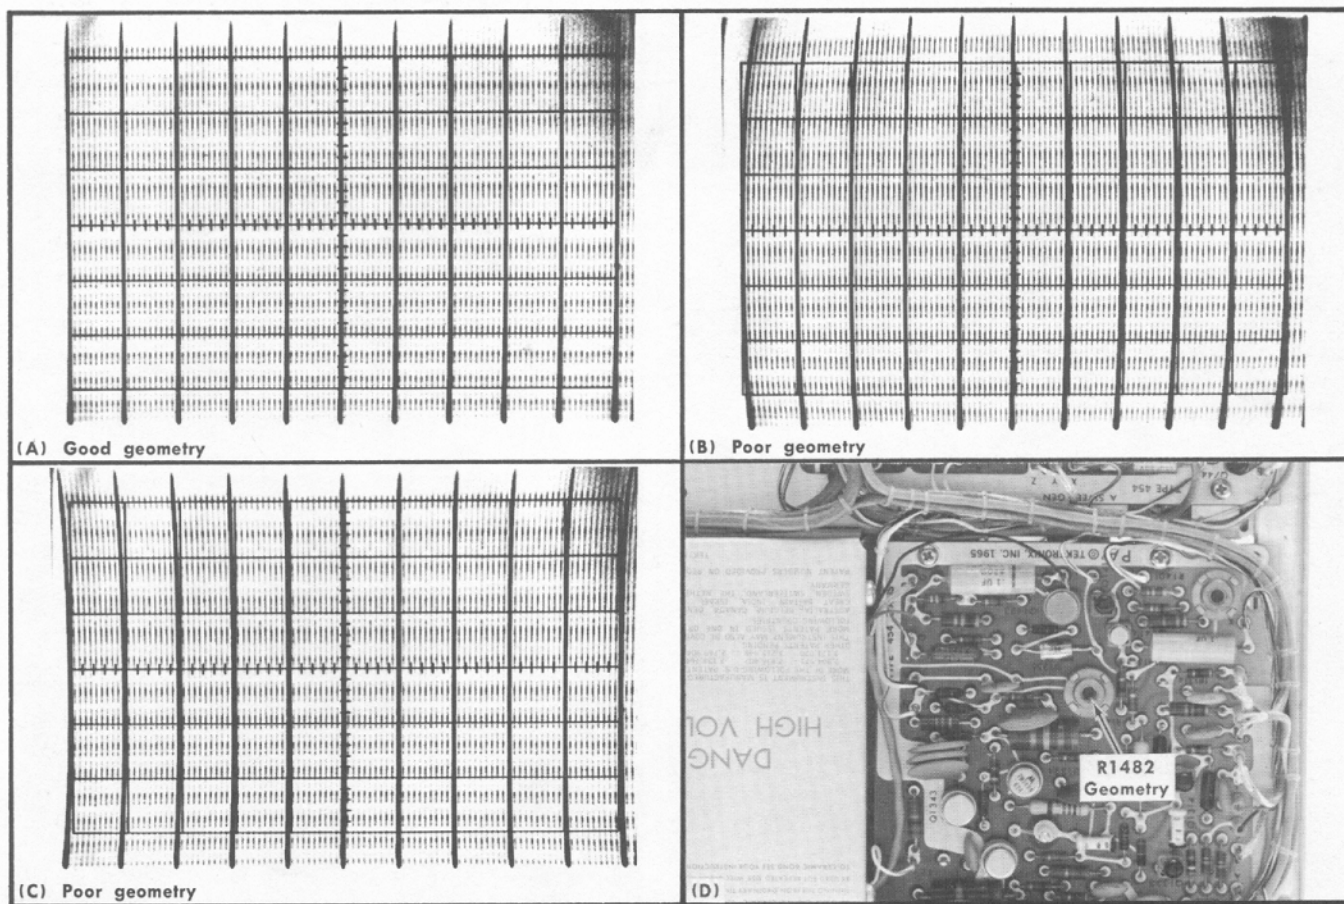

Fig. 6-14. (A) Typical CRT display showing good geometry, (B) and (C) poor geometry, (D) location of Geometry adjustment (Z Axis Amplifier circuit board).
- b. CHECK—Geometry at left and right edges of the graticule. Fig. 6-14 shows a typical display of good geometry as well as examples of poor geometry.